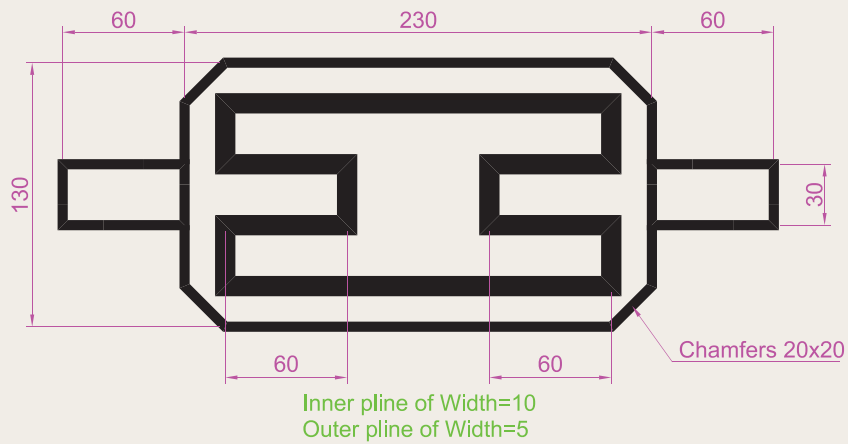

Fig. 3.55 Exercise 11
11. Construct the two outlines shown in Fig. 3.55 using the **Rectangle** and **Line** tools and then with **Edit Polyline** change the parts of the drawing to plines of widths as shown.